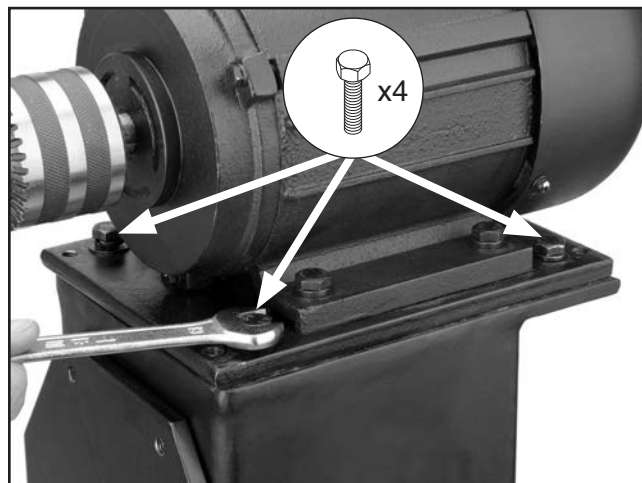

Figure 13. Mounting motor plate to stand.
2. Secure the motor mounting plate and stand with four M8-1.25 x 25 hex bolts, 8mm lock washers and 8mm flat washers, as shown in **Figure 13**.